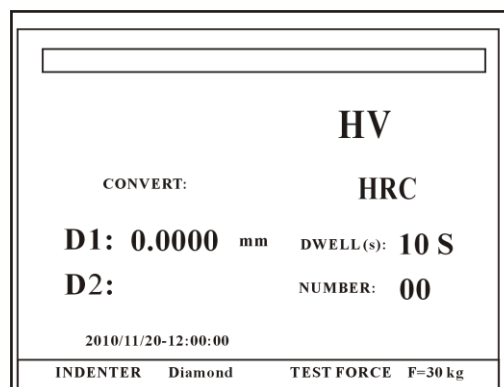

Fig. 8-1
3.2 Press the arrow keys, select "SCALES" blinking cursor, press the "OK" button, the screen show the Brinell, Rockwell, Vickers hardness scale selection table (Fig.5-3). Select your desired hardness scale and Press "OK" button to return to the main page (Fig 8-1).